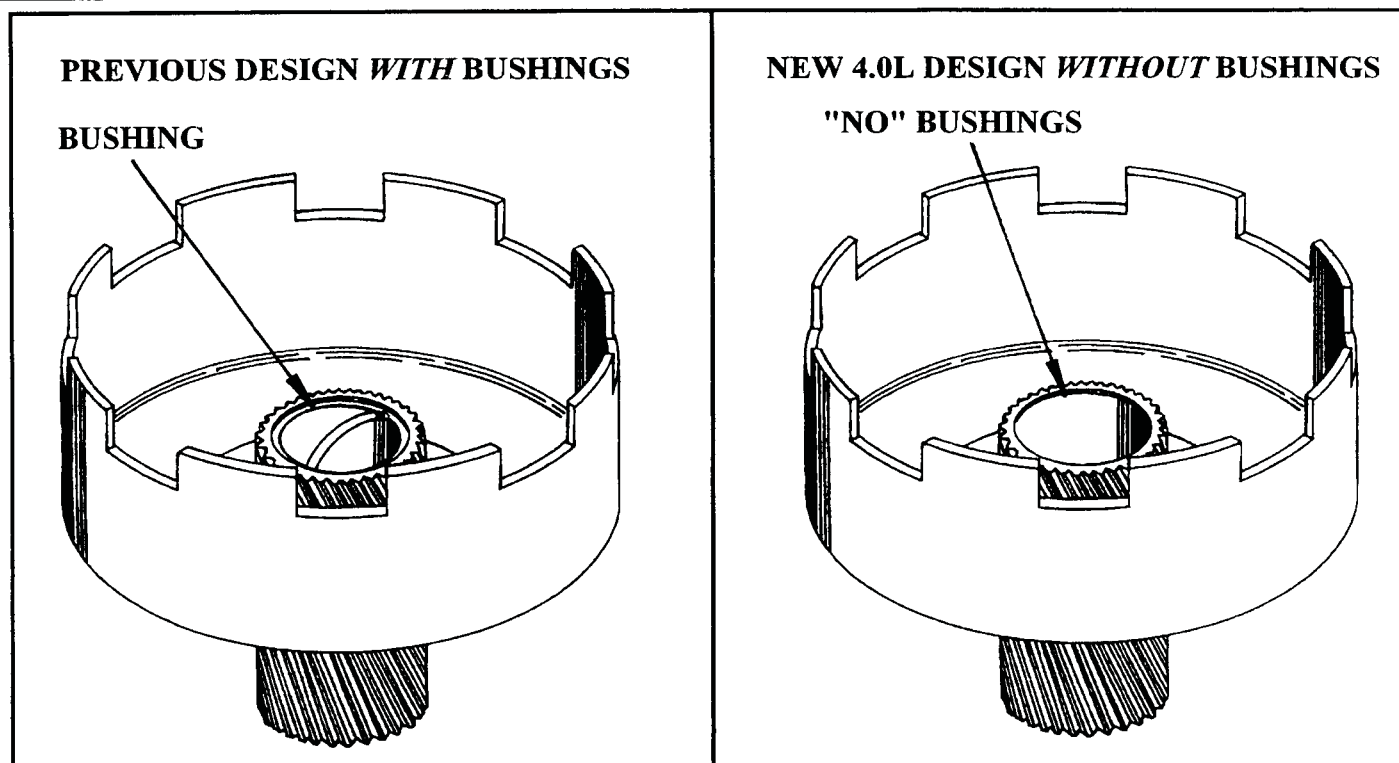

Figure 33
(2) **SUN GEAR** - Both bushings, inside the sun gear, were eliminated to allow full lubrication flow to the front planetary (See Figure 33).
- (1) The new design sun gear **WITHOUT** bushings **WILL** retro-fit back to all previous models (See Figure 33).
- (2) The previous design sun gear **WITH** the bushings **CANNOT** be used forward into the 4.0L models (See Figure 33).